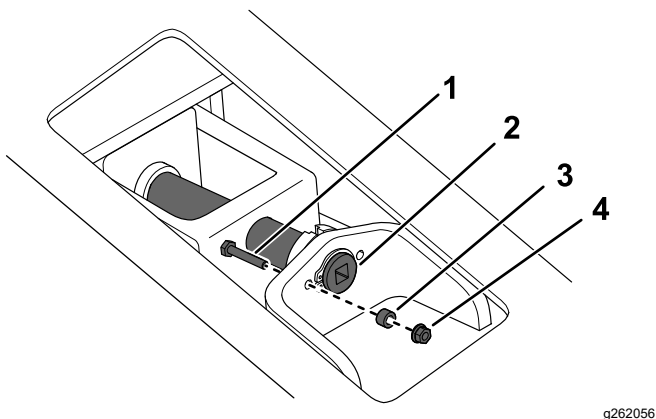
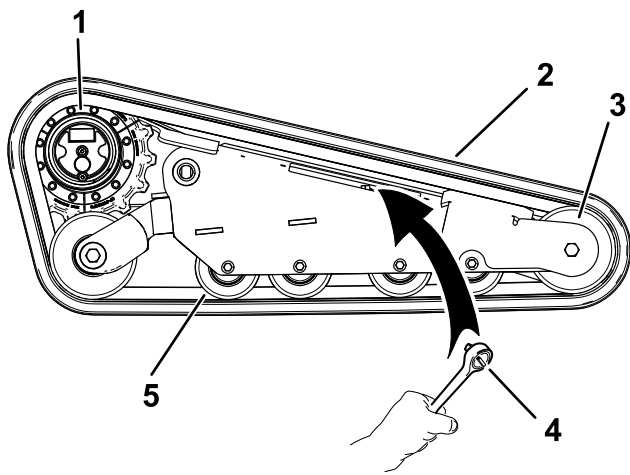

Figure 72
Figure 74
6. Remove the locking bolt, spacer, and nut (Figure 72).
8. Align the notch in the tension screw to the nearest locking-bolt hole and secure the screw with the locking bolt, spacer, and nut (Figure 72).
7. Using a 1/2-inch drive ratchet, release the drive tension by turning the tensioning screw clockwise (Figure 72 and Figure 74).
- Wrap the new track around the front wheel (Figure 74).
- Push the track under and between the road wheels and wrap it around the rear tension wheel (Figure 74).